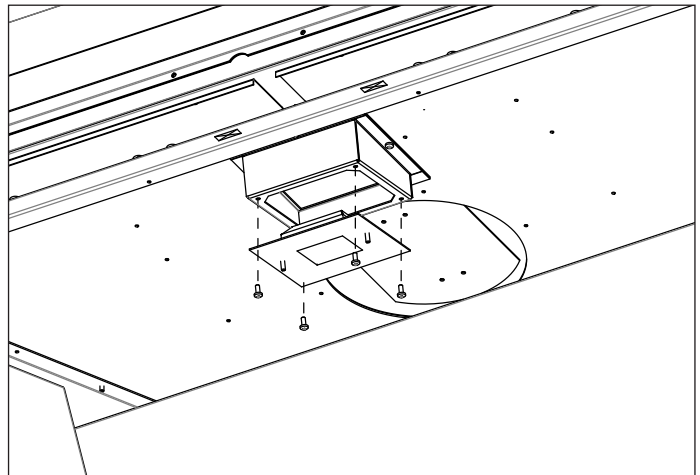

Figure 15: Top Light Removal
4. Remove the top light assembly by removing four (4) bolts using a 5/16" socket (see Figure 15).